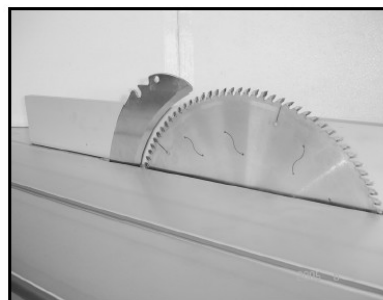

Fig. 37
3. Move the rip fence against the main blade (or scoring blade) (Fig. 37)
2. Move the rip fence against the main blade (Fig. 37)